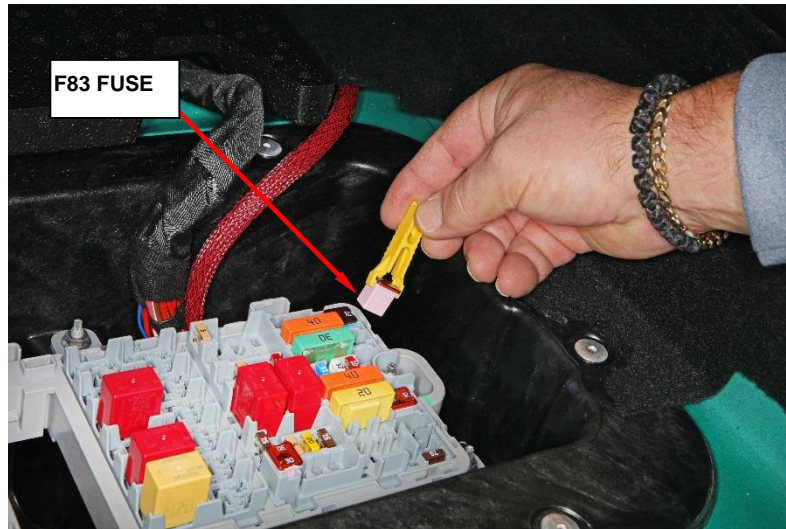

Figure 14 – Fuse Box
- d) Remove the F83 fuse (Figure 14).